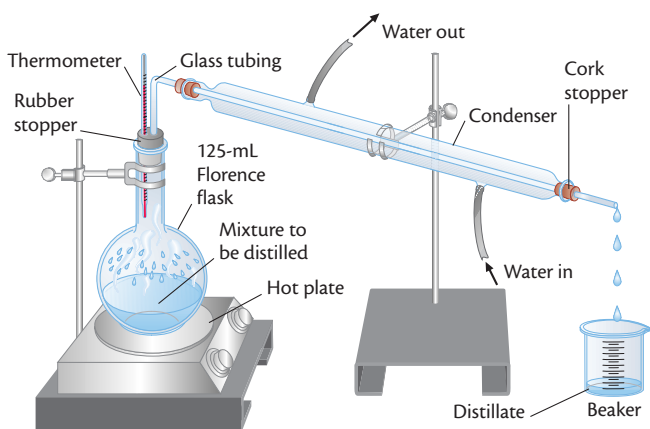

Figure 3 Distillation of a simple mixture.
2. Assemble an apparatus similar to that shown in Figure 3. Label two beakers Distillate 1 and Distillate 2.
5. Connect the flask to a condenser as indicated in Figure 3. Ensure that the hoses are attached to the condenser and water supply as shown. Position the Distillate 1 beaker at the outlet of the condenser so it will catch the distillate.